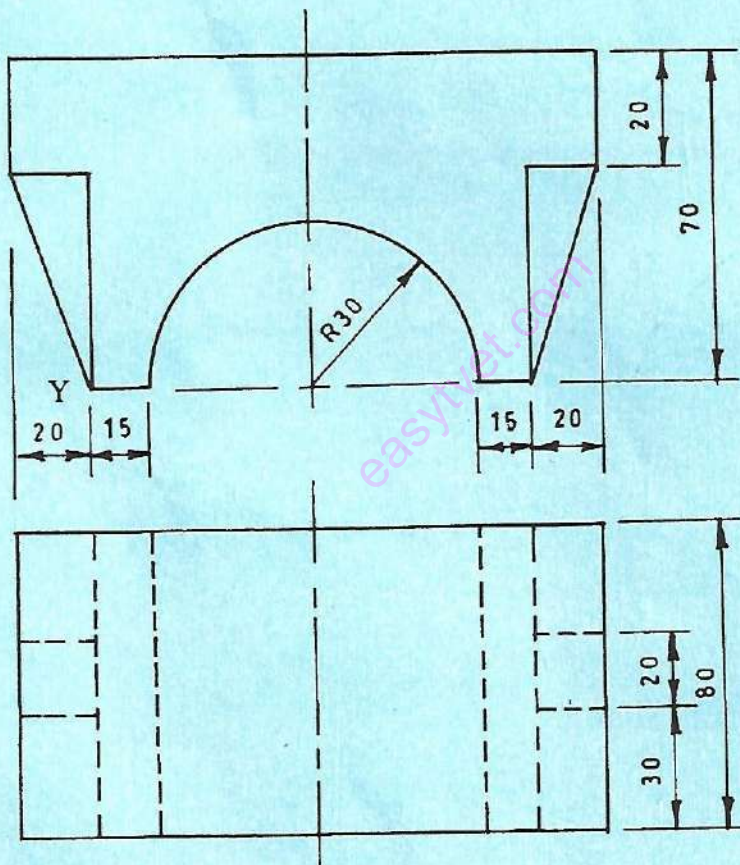

Fig. 3
6. Figure 3 shows views of a block drawn in first angle projection. Construct the block in isometric projection with corner Y as the lowest point. (15 marks)